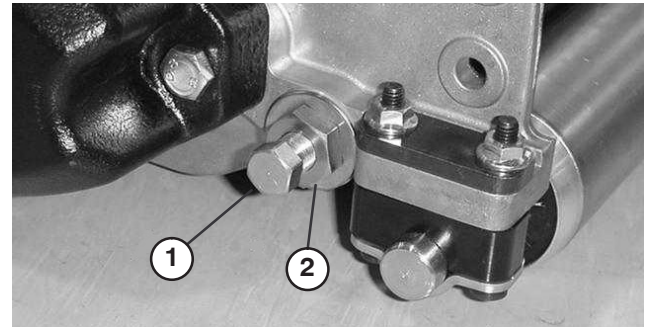
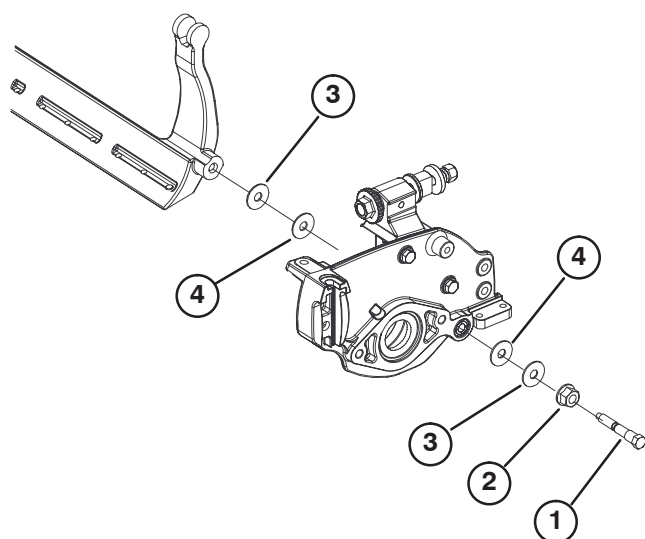

Figure 18
Figure 19
3. On each side of the machine, loosen the nut securing the bedbar bolt (Fig. 18).
4. Remove each bedbar bolt allowing bedbar to be pulled downward and removed from machine (Fig. 18). Account for 2 nylon and 2 stamped steel washers on each end of bedbar (Fig. 19).
2. Secure bedbar to each side plate with bedbar bolts (nuts on bolts) and 8 washers. A nylon washer is to be positioned on each side of side plate boss. Place a steel washer outside each of the nylon washers (Fig. 19). Torque bolts to 240–320 in.-lb. Tighten flange nuts to remove end play but do not over-tighten or deflect side plates. Washers on inside may have a gap.